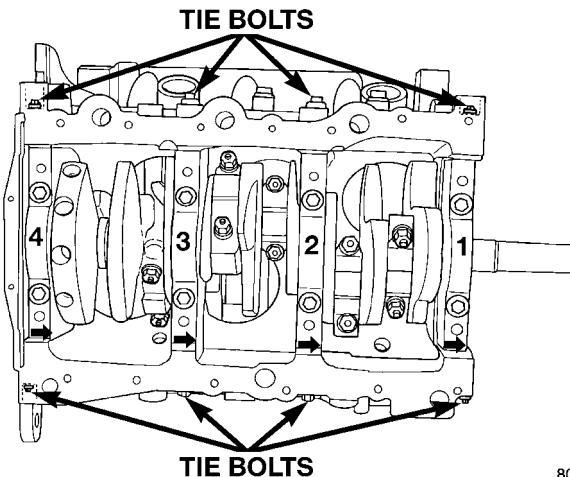

Fig. 68 Main Bearing Cap Identification
Bearing caps are not interchangeable and are marked to insure correct assembly (Fig. 68). Upper and lower bearing halves are NOT interchangeable.
(1) Remove oil pan. (Refer to 9 - ENGINE/LUBRICATION/OIL PAN - REMOVAL)
(2) Remove oil pick-up tube and windage tray.
(3) Identify bearing caps before removal (Fig. 68).